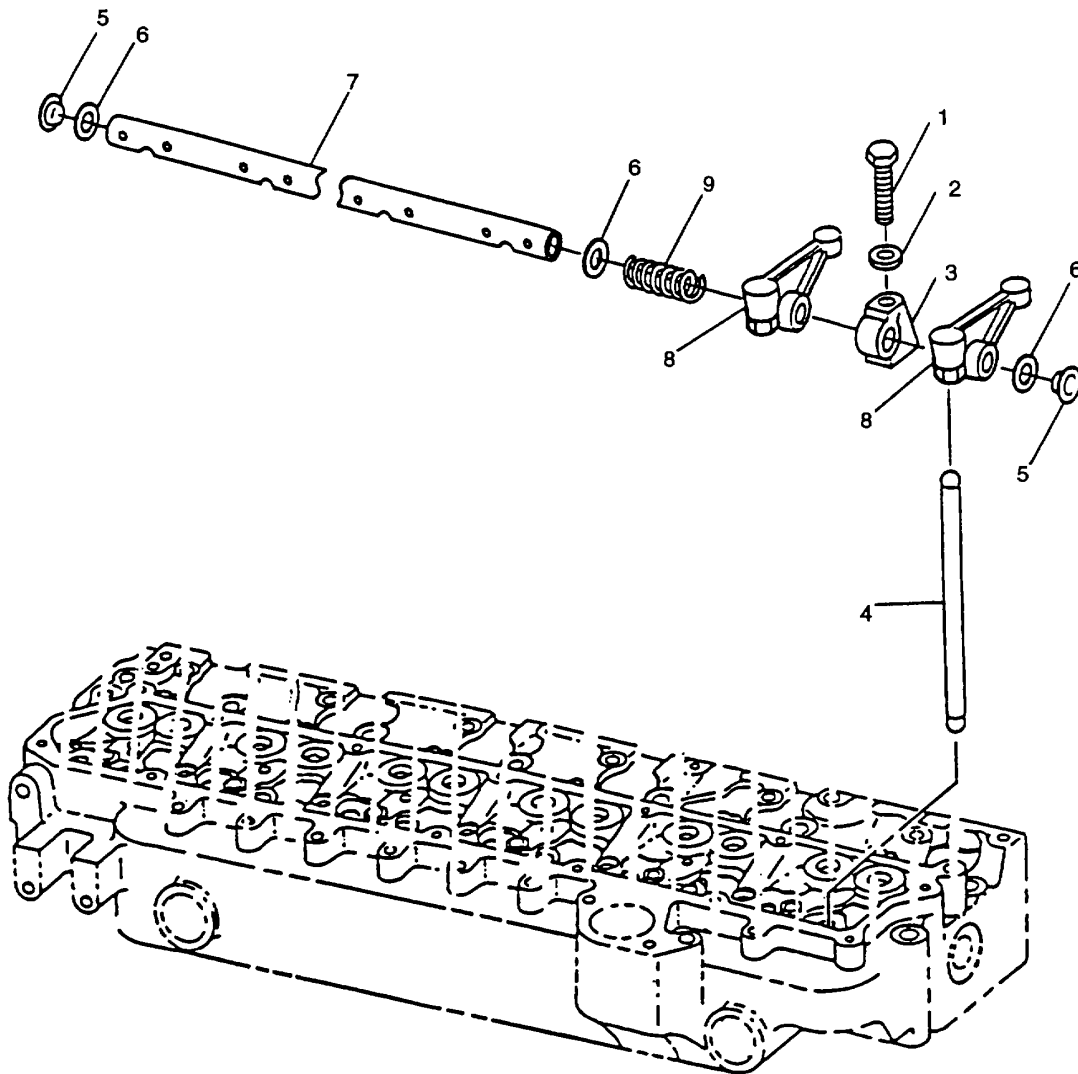

FIGURE 3-118. Rocker Arm Assembly
Capscrews (1, FIGURE 3-118) must be loosened sequentially, a little at a time, to prevent warping of shaft (7).
- b. Remove six capscrews (1) and washers (2) securing six supports (3) to cylinder head; remove rocker arm assembly from head.
- c. Remove twelve pushrods (4) and tag them as to their location. This will aid in installation.
- a. Remove plug (5, FIGURE 3-118) from one end of shaft (7). Remove two spring washers (6).
- a. Lubricate OD of shaft (7, FIGURE 3-118), bores of rocker arms (8), and supports (3) with clean engine lubricating oil (MIL-L-2104).
- a. Install pushrods (4, FIGURE 3-118) in same location from which they were removed.